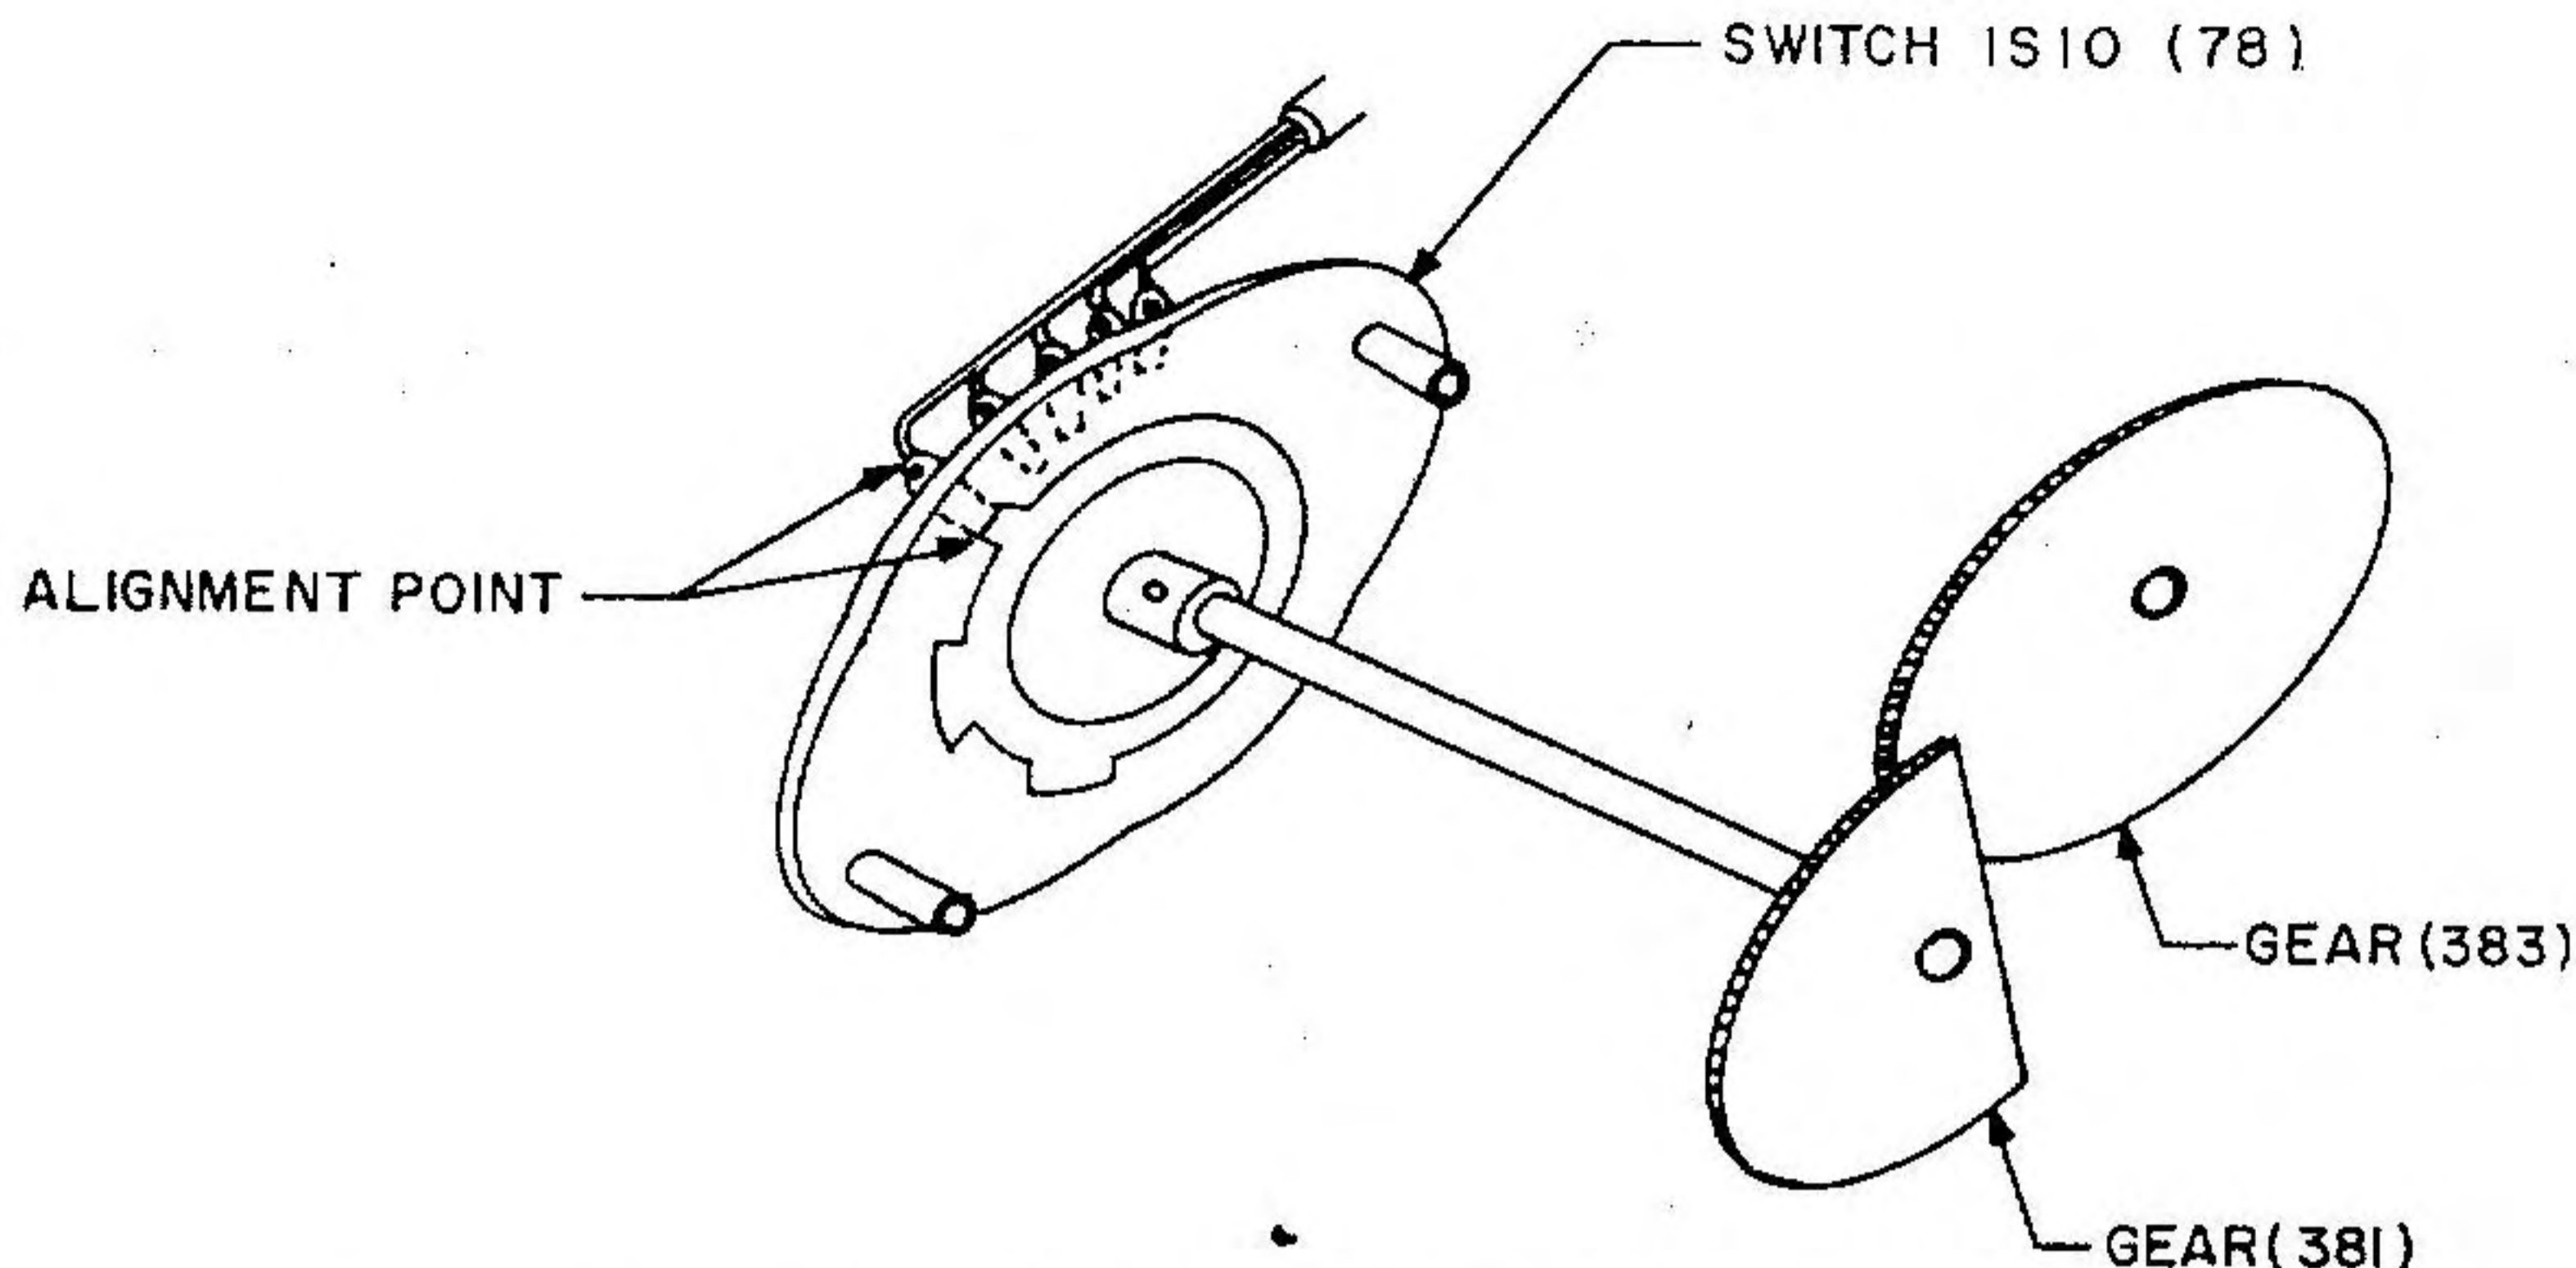

Figure 5-2. Capacitor Drive Switch 1S10 Alignment
(b) At this point, check setting of switch 1S10 as follows (see figure 5-2).
1. Rotate sector gear (381) until leading edge of sector aligns with outer edge of gear (383).
2. Verify that rotating contact of switch 1S10 is in alignment with contact 11, as shown in figure 5-2.